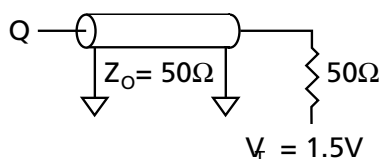
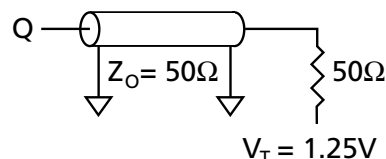

Figure 1
Figure 3
8. Test conditions as specified with the output loading shown in Figure 1 for 3.3V I/O ($V_{DDQ} = +3.3\text{V} \pm 0.165\text{V}$) and Figure 3 for 2.5V I/O ($V_{DDQ} = +2.5\text{V} \pm 0.4\text{V}/-0.125\text{V}$) unless otherwise noted.
Output load	See Figures 1 and 2
Output load	See Figures 3 and 4